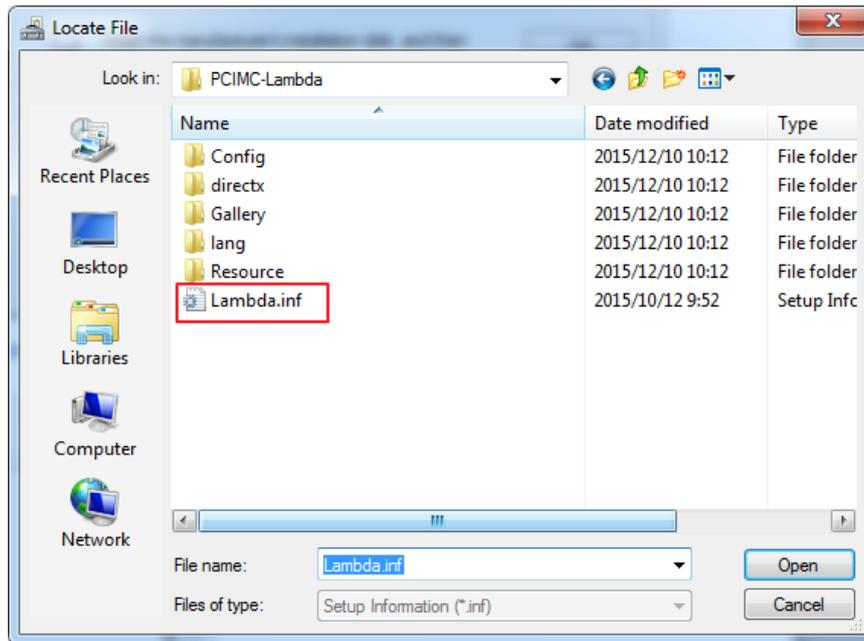

Fig. 1-7 Select the Hardware Driver
- 5) In dialog box "Locate File", select the hardware driver Lambda.inf, shown as Fig. 1-7. And click **Open**.